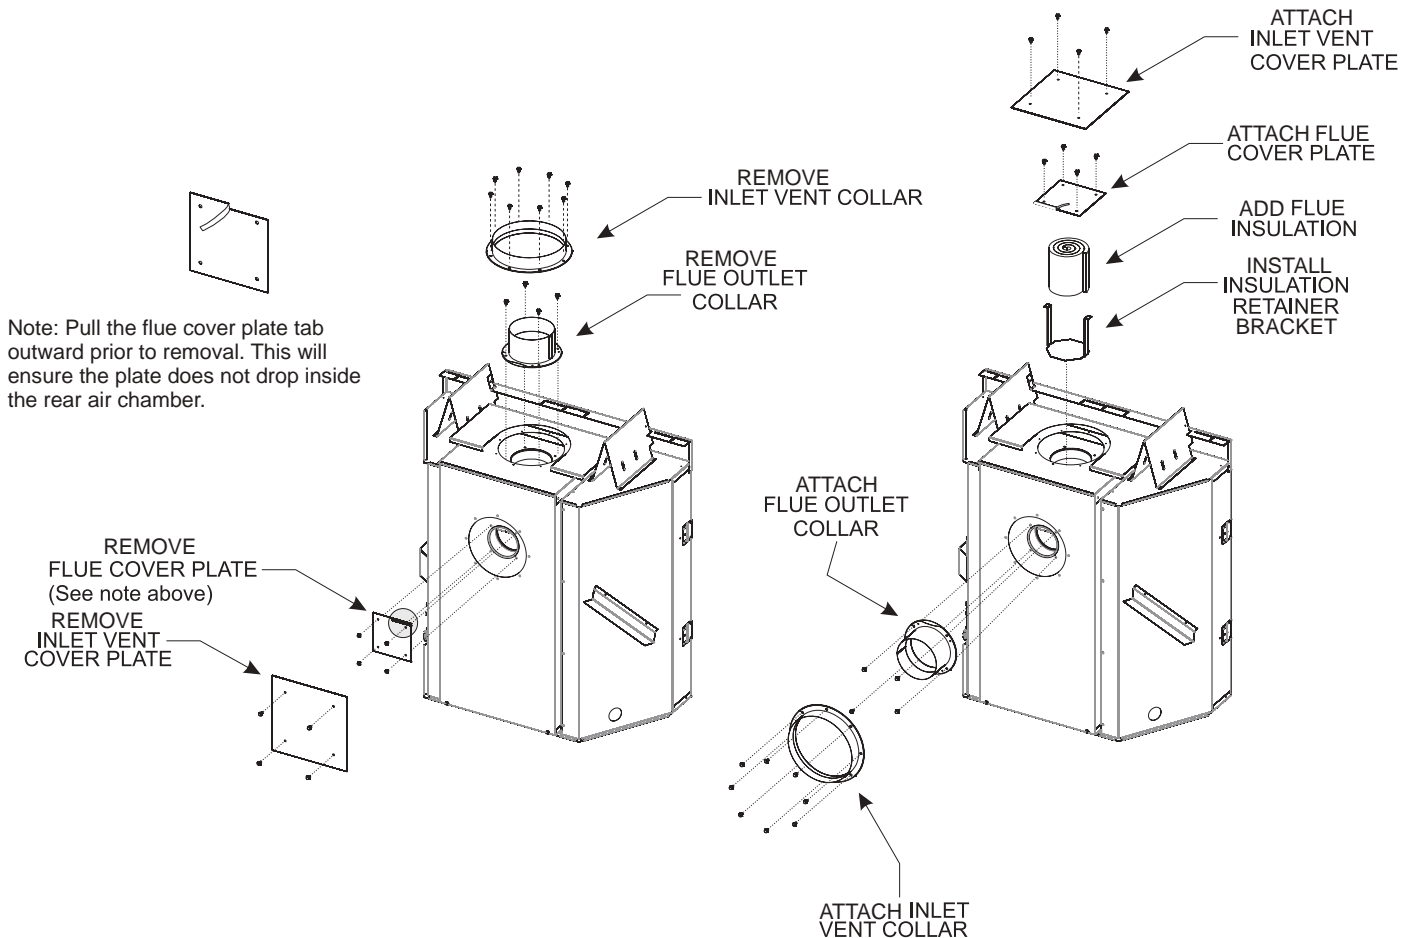

Figure 45
4. Re-install the inlet vent cover plate over the top inlet opening with eight #10 hex head screws. **See Figure 45.**